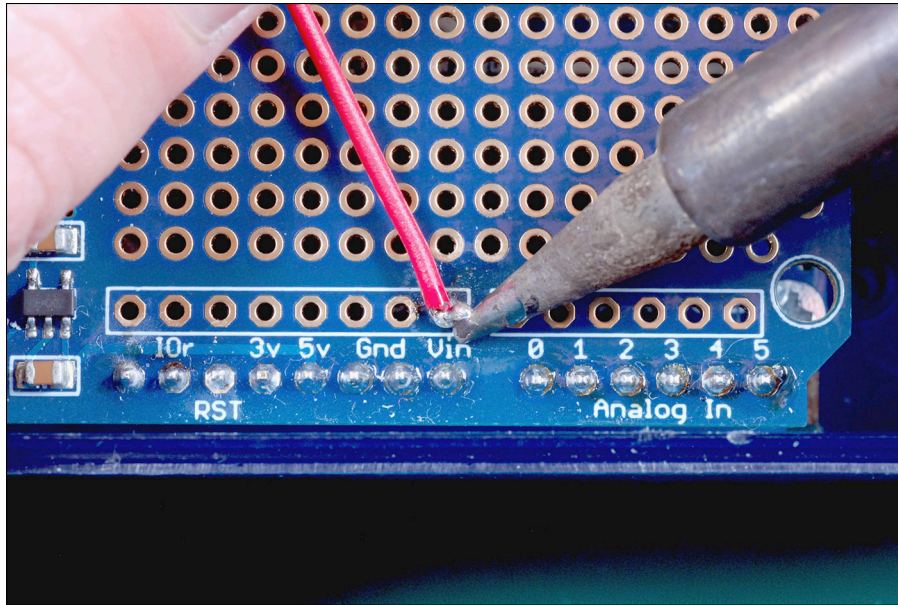

Figure 13-18:
7. Now, solder the red power wire from your power switch to the input power pin labeled Vin, as shown in Figure 13-18.